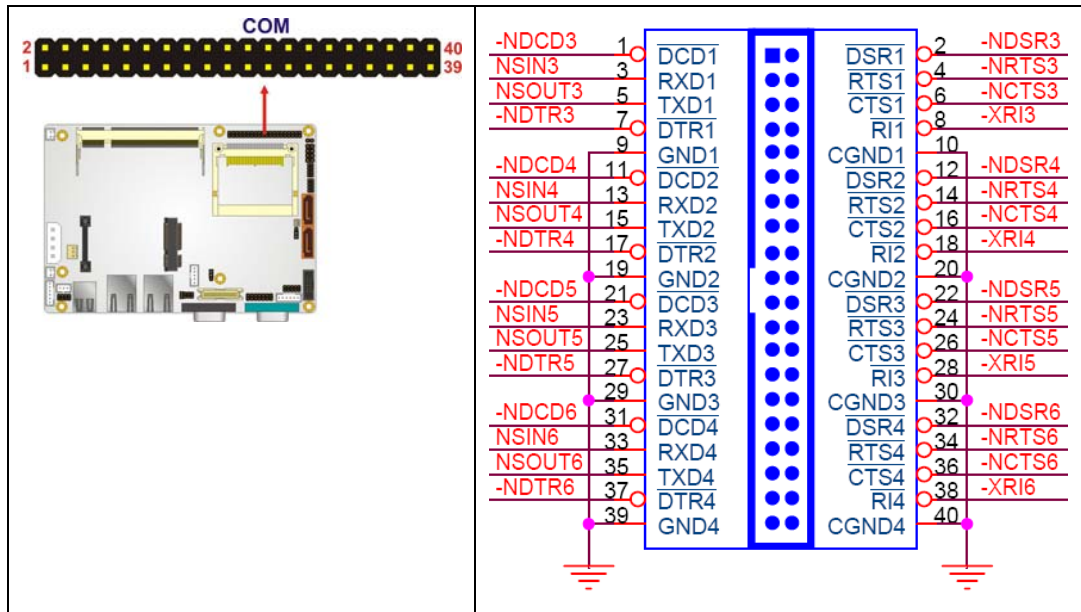

Figure 3-11: COM3 to COM6 Connector Pinout Locations
- CN Location:** See Figure 3-11